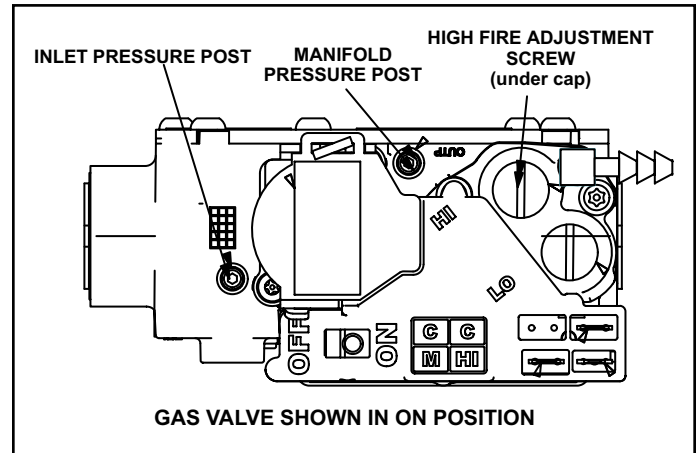

Figure 45. Gas Valve
Gas Valve Operation (Figure 45)
6. Move gas valve switch to OFF. See Figure 45.
8. Move gas valve switch to ON. See Figure 45.
An inlet post located on the gas valve provides access to the supply pressure. See Figure 45. Back out the 3/32 hex screw one turn, connect a piece of 5/16 tubing and connect to a manometer to measure supply pressure. See Table 18 for supply line pressure.
A manifold pressure post located on the gas valve provides access to the manifold pressure. See Figure 45. Back out the 3/32 hex screw one turn, connect a piece of 5/16 tubing and connect to a manometer to measure manifold pressure.
4. After allowing unit to stabilize for 5 minutes, record low fire manifold pressure and compare to value given in Table 18. If necessary, make adjustment. Figure 45 shows location of low fire adjustment screw.
5. Repeat on high fire and compare to value given in Table 18. If necessary, make adjustment. Figure 45 shows location of high fire adjustment screw.